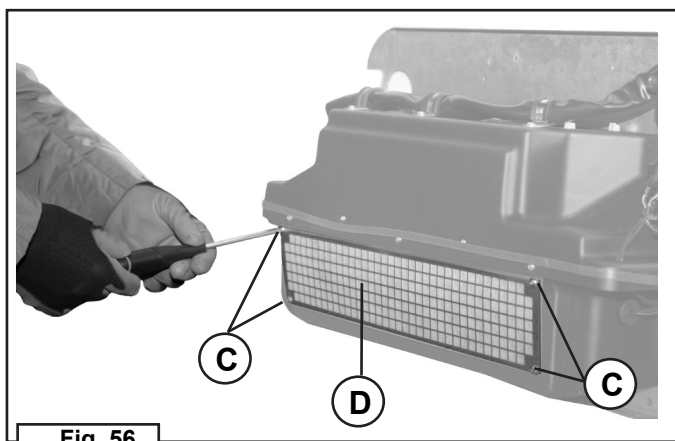

Fig. 56
6	Loosen and remove the 4 self-threading screws (C) holding the filter (fig. 56).